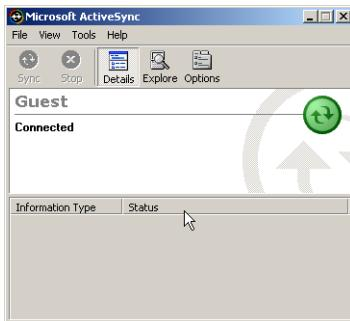

Figure 2-11. Computer and Controller Connected
5. The computer establishes a connection with the TPS Controller/CE-based Total Station. If the TPS Controller/CE-based Total Station is switched on (Figure 2-11 on page 2-7), and the correct COM Port is selected, the following dialog box displays.